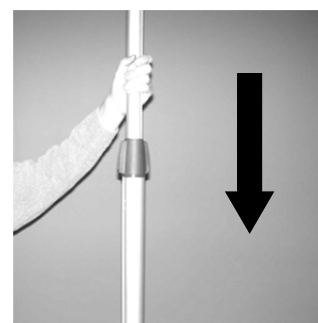

Figure 54
- d) Push the top portion of post downward (see Figure 54).